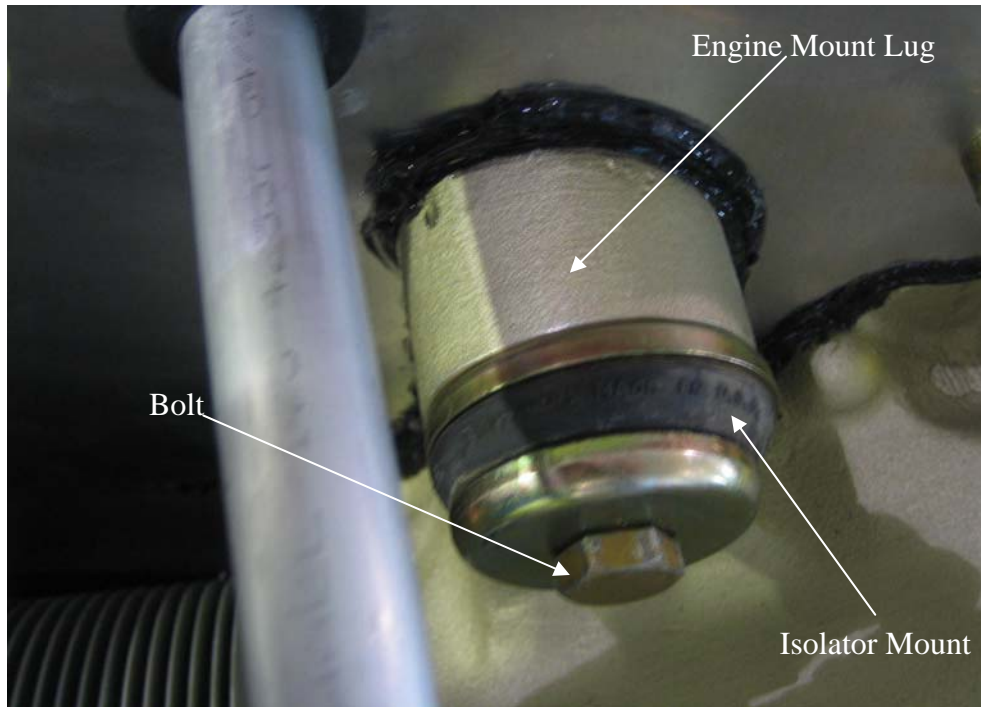

Figure 1
- b. Remove forward isolator mount (See Figure 1).